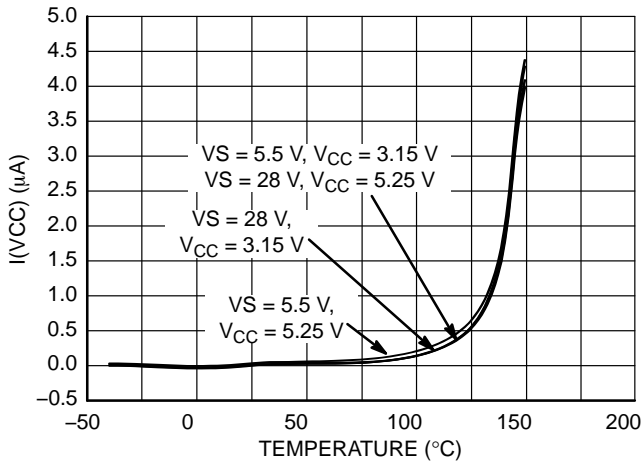

Figure 17. I(VCC) vs. Temperature
- Refer to Figure 17 for the  $V_{CC}$  standby current behavior.